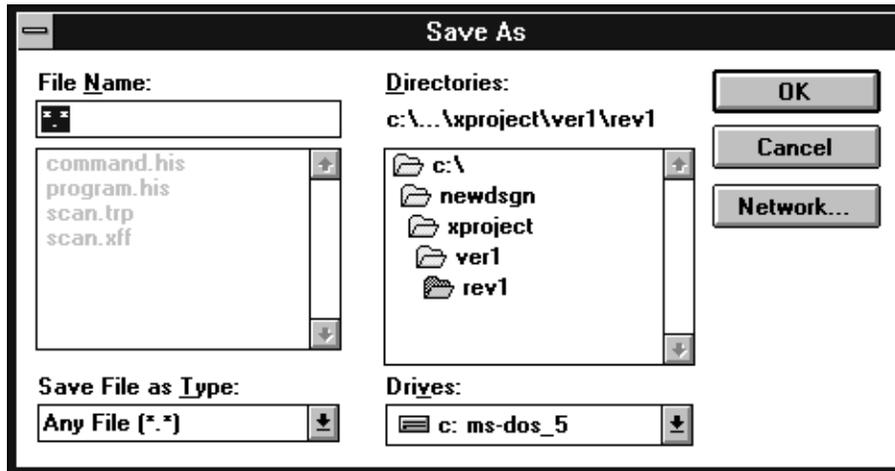

Figure 2-23 The Save As Dialog Window
following Save As Dialog window as shown in Figure 2-23.
- Move: If you want to move a file, highlight the file name in the Revision Browser window and click Move; you will see the same Save As dialog window as shown in Figure 2-23.